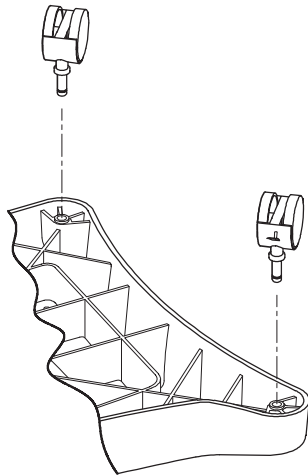

Figure 1
1. **For Stationary Cart Assembly:** Use the template on page 23 to locate and pre-drill the three screw holes into wood or concrete for the cart base. If applicable, drill the 1 1/2" gas line access hole. **DO NOT** secure base with the screws at this time. **For Mobile Cart Assembly:** Flip plastic base and insert casters by inserting the pin provided with the casters in the proper hole. It is recommended that the two casters with brakes should be in the front of the base. See Figure 1.